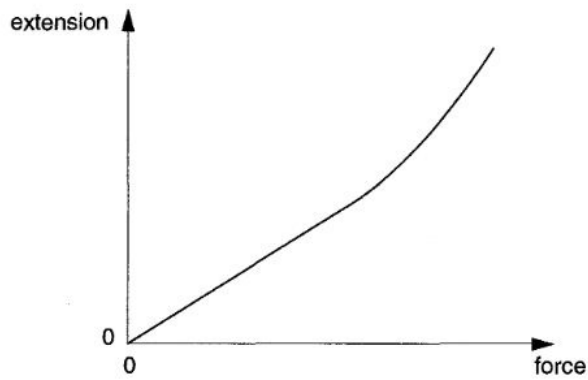

Fig. 3.1
3 (a) Fig. 3.1 shows the variation with tensile force of the extension of a copper wire.
(ii) 1. On Fig. 3.1, mark with the letter L the point on the line beyond which Hooke's law does not apply.
2. State how the spring constant for the wire may be obtained from Fig. 3.1.